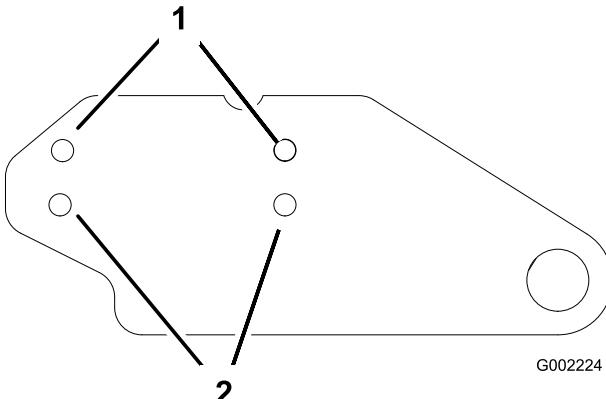
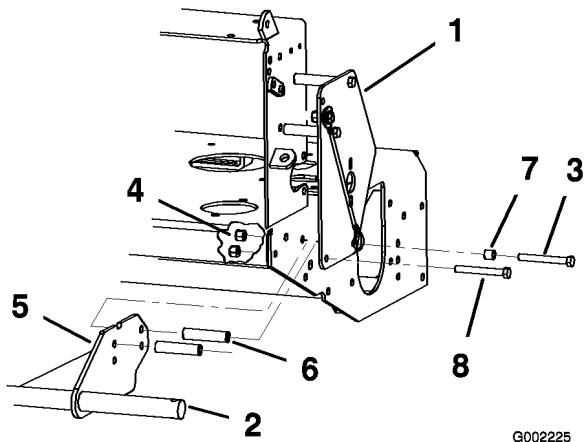
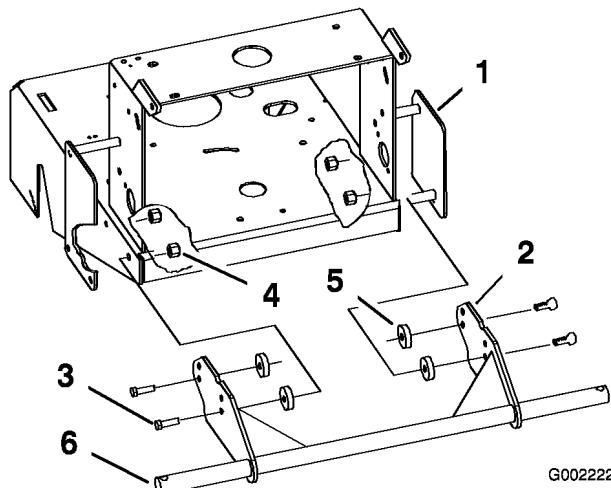

Figure 4
Figure 5
Figure 6
6. Install the axle to left side of the machine using 2 bolts previously removed and 2 locknuts (3/8 inch) in the top holes in the axle (Figure 3 and Figure 4).
7. Using the upper rear hole, install the axle to right side of the machine using 1 previously removed bolt (3/8 x 4 inches), 1 new long spacer (2-3/4 inches), and 1 locknut (3/8 inch) (Figure 4 and Figure 5).
8. Using the upper front hole, install the axle to right side of the machine using 1 bolt (3/8 x 4-1/2 inch) previously removed, 1 new long spacer (2-3/4 inches), 1 short spacer previously removed on the outside of the guard, and 1 locknut (3/8 inch) (Figure 4 and Figure 5).
3. Insert the axle mounting brackets between the pulley guards and the frame (Figure 6).
4. Insert the flat spacers between the axle mounting brackets and the frame, lining up the holes (Figure 6).
and locknuts (3/8 inch) supplied with the sulky, secure the axle and the spacers as illustrated in Figure 4 and Figure 6.